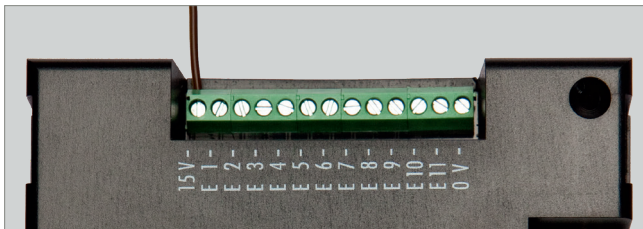
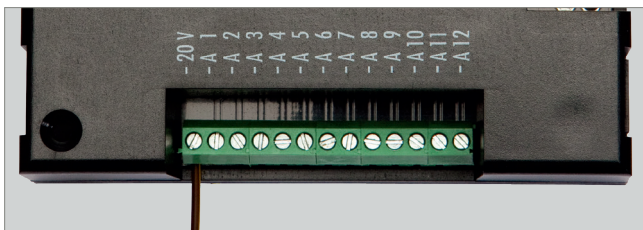

Fig. 5: Screw terminal 15 V
Fig. 6: Screw terminal 20 V
- ▶ Connect one of the connection cables of the consuming device to the voltage intended for that purpose (15 V or 20 V), see Fig. 5 and Fig. 6.